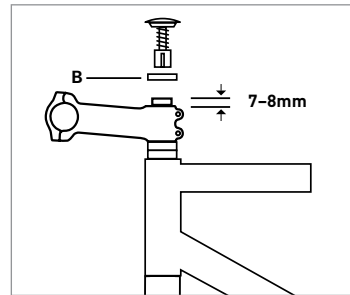

Figure 5
- A carbon steerer tube must extend 7–8mm above the top of the stem clamp and have a 10mm spacer installed between the stem and top cap (Fig. 5).